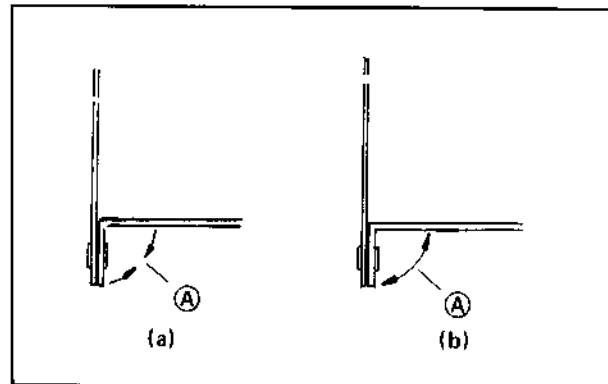

Fig. 5-12
6. If measured take-up loading tension is greater than 40 grams, slightly and carefully bend the take-up loading brake lever at point A as shown in Fig. 5-12(a).
7. If measured take-up loading tension is less than 30 grams, slightly bend the take-up loading brake lever at point A as shown in Fig. 5-12(b).